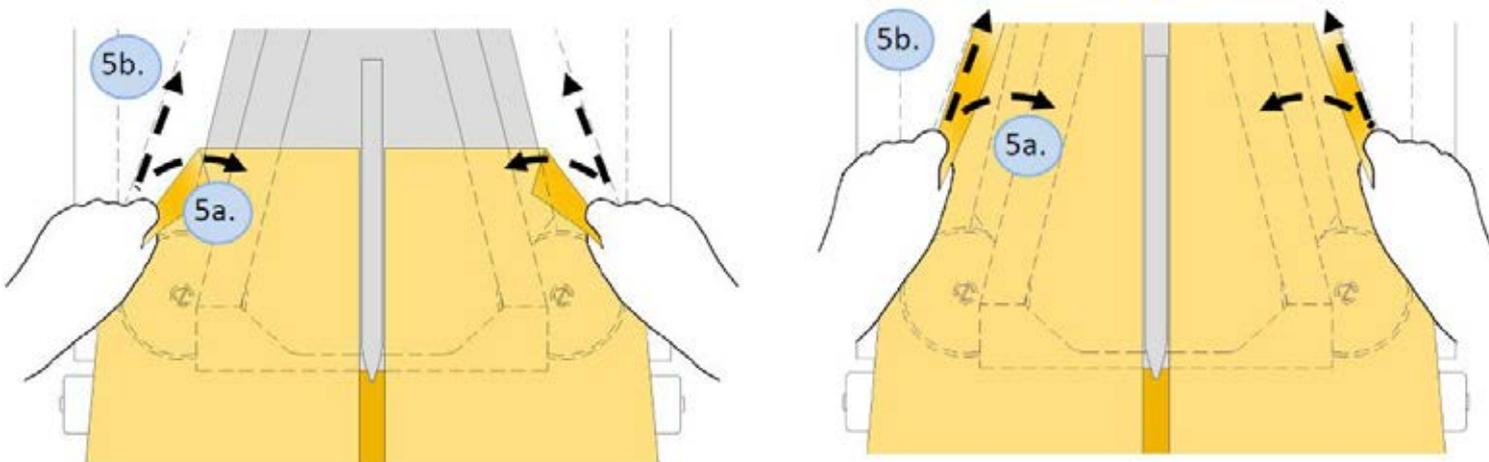

Figure 26 Loading Paper After Soft-Jam - Step 5
- d. **Step 4:** Guide the paper onto the pre-former (refer to Figure 26).